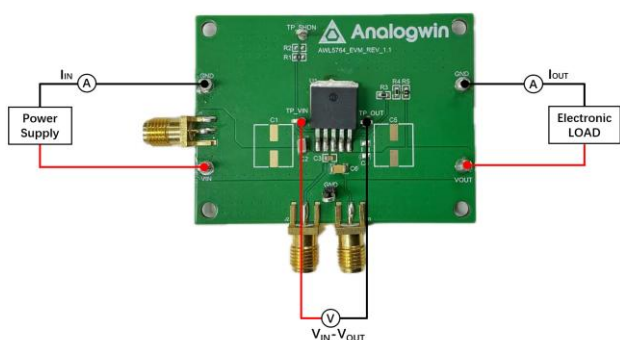

Fig.3 Dropout Voltage Bench Setup
1. To satisfy requirements for minimum input voltage, the AWL5764 (adjustable version) is tested and specified for these conditions with an external resistor divider (two 4.12k resistors) for an output voltage of 2.42V. 2. Set $V_{IN}=2.4V$ and turn on input power supply. Follow the procedures in Fig.3